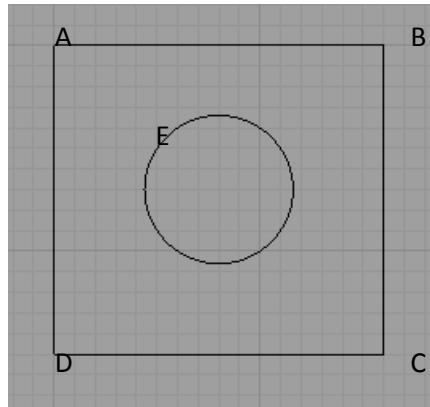

Figure 15. Combining objects.
3. **Stitch:** Let's take an example shown in Figure 15. Initially the lines AB, BC, CD, DA, and circle E are all separate. Separate means they can be selected and edited individually. However, **Stitch** will group all of them to be one so that all can be selected at once. This function is useful when the user wants to edit or assign the same property and/or boundary conditions to all the objects as once.
4. **Join:** This tool functions similar to **Stitch** except that it only groups the connected lines. For the example shown in Figure 15, **Join** can group the lines AB, BC, CD, and DA to one, but not the circle.